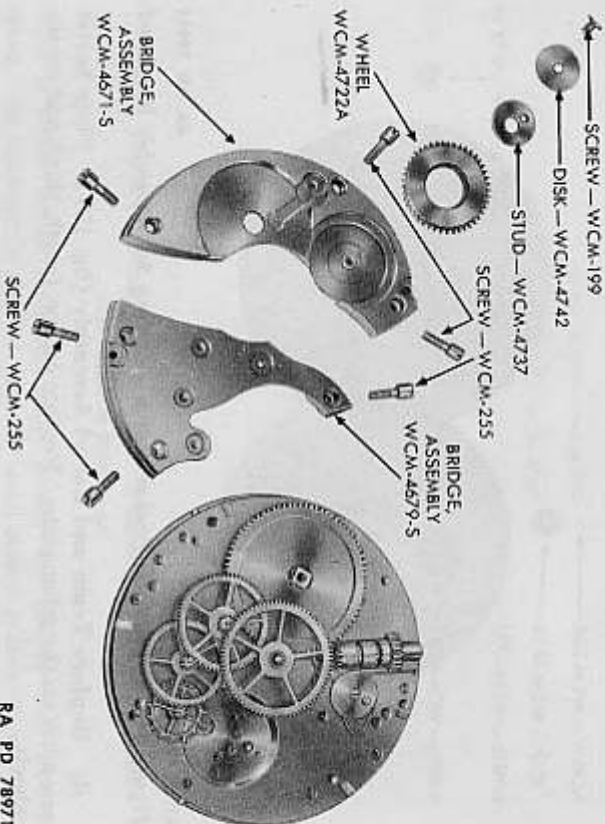

Figure 106 — Waltham Pocket Watch — Barrel and Train Bridge Assemblies Removed
o. Remove Bridges (fig. 106). Remove crown wheel screw, crown wheel disk, stud, and crown wheel. Remove the barrel, and train bridge screws and bridges. If the bridges are tight, loosen by pushing on steady pins from top of pillar plate until space permits insertion of a screwdriver between pillar and bridge to pry bridge free.
e. **Replace Bridges** (fig. 106). Replace barrel bridge and secure in place with bridge screws. Replace train bridge, aligning train wheel pivots in their respective holes in the train bridge. Secure bridge with bridge screws. Replace crown wheel, crown wheel washer, and crown wheel disk, and secure with crown wheel screw.